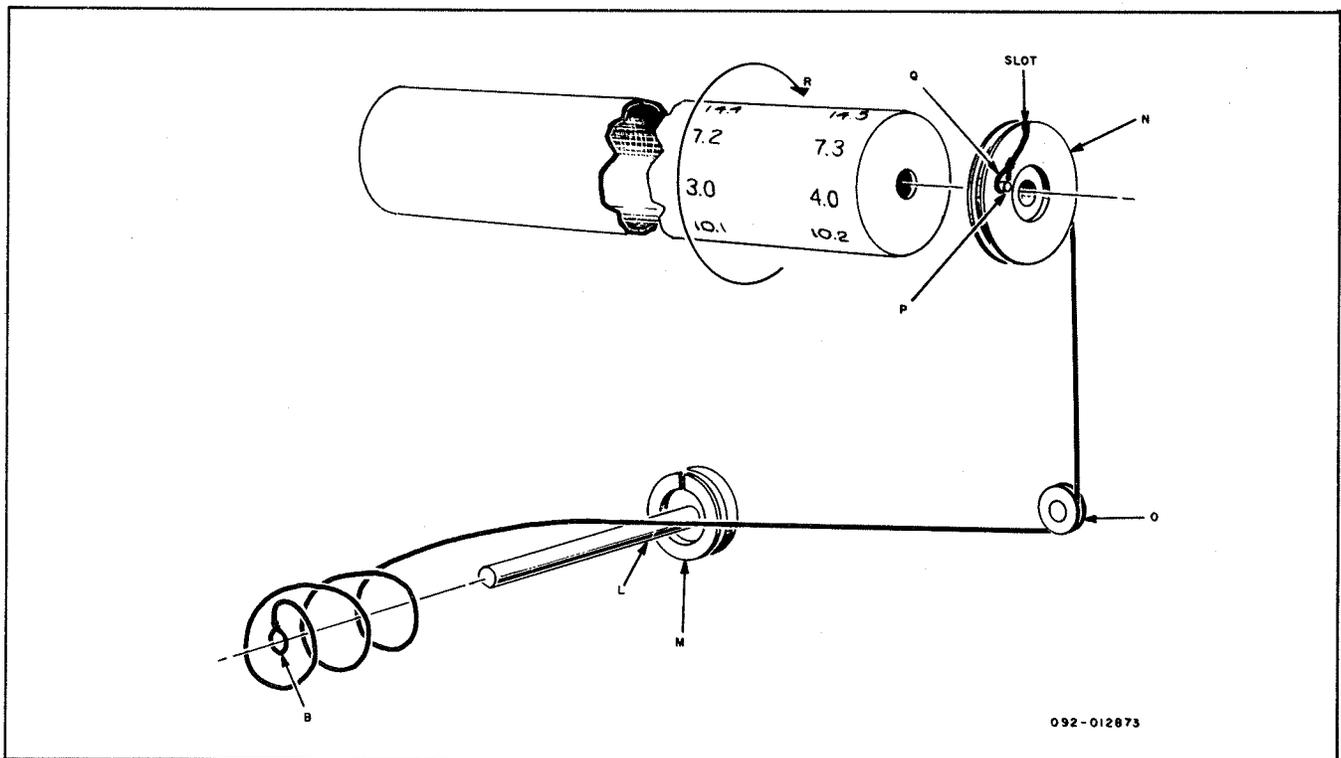

Figure 11. Dial Drum Cable Stringing.
1. Follow items 1, 2, 3, 4, and 5 of paragraph 6-6.
2. String the dial drum cable as follows (see figure 11):
- b. Attach end of the cord (8) to shaft L and wind three turns of cord onto pulley M in a clockwise direction.